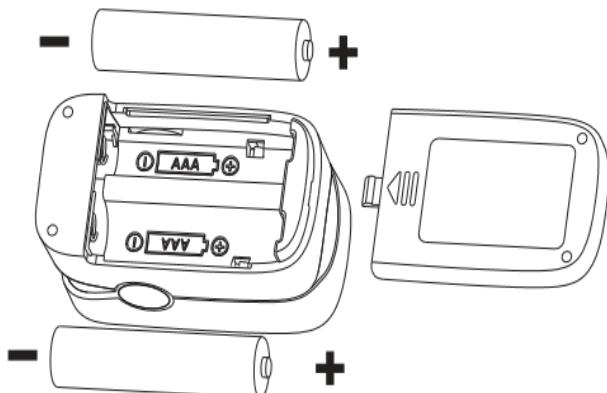

Figure 4 Battery Installation
- Put the two AAA batteries into battery compartment in correct polarities (Figure4).